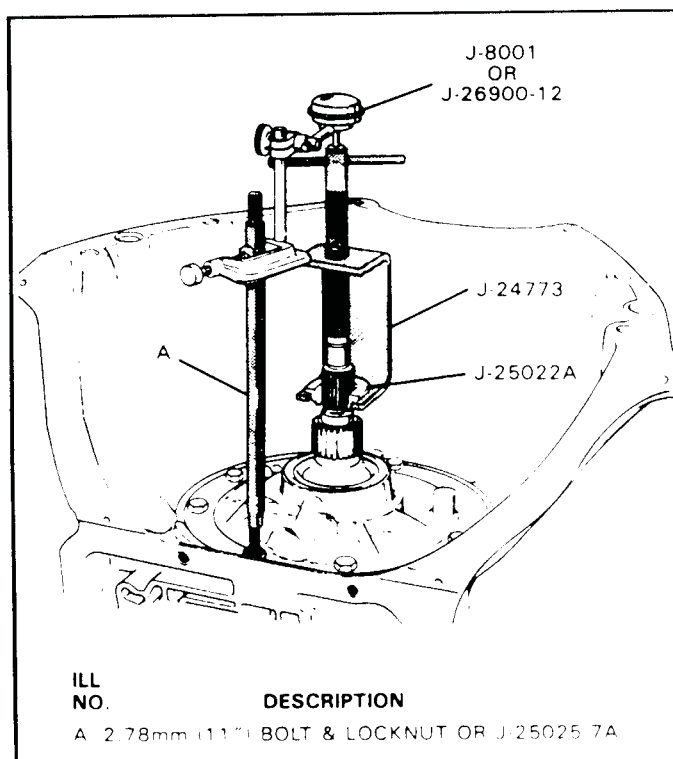

Figure 43
35. Rotate transmission so that pump is facing up, and install dial indicator and lifting tool on transmission as shown in Figure 43.
38. Refer to Figure 43, and the washer selection chart in Figure 44.
39. Remove the dial indicator and lifting tool from the transmission (See Figure 43).